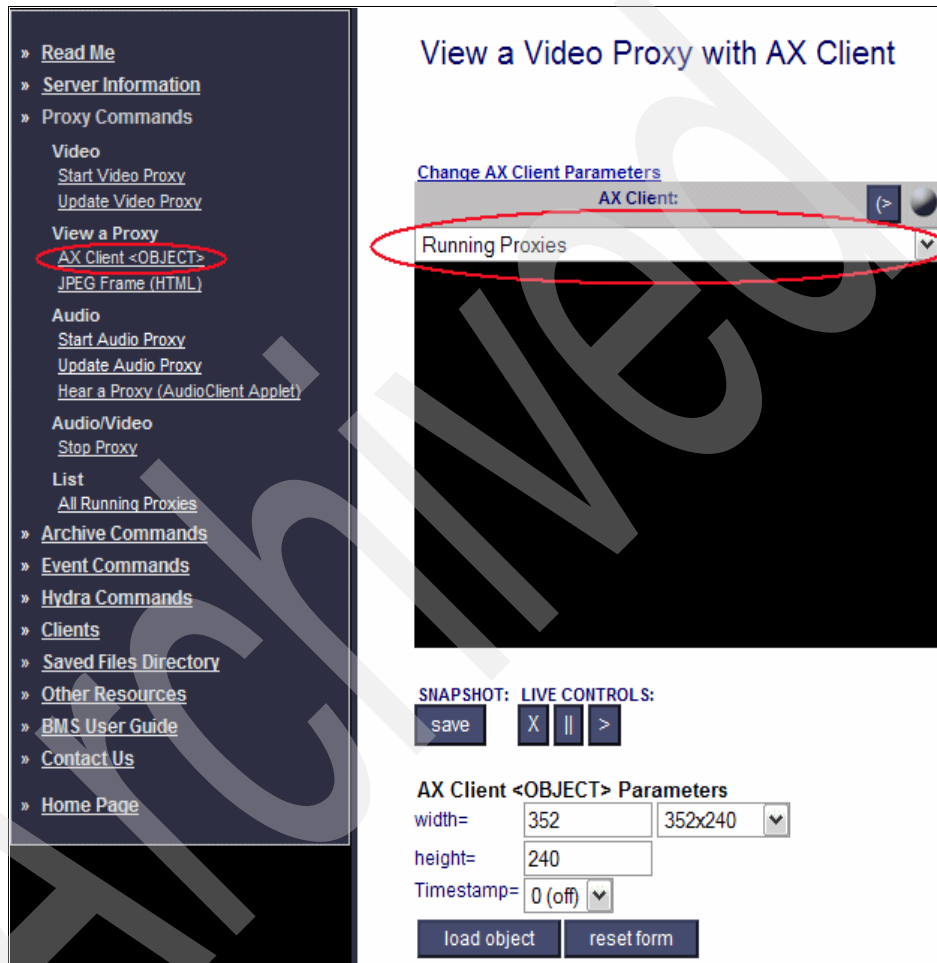

Figure 8-13 View a Video Proxy
1. On the left navigation menu, click AX Client <OBJECT>, and the View a Video Proxy with AX Client page is displayed. The proxy view window is black until you select a proxy from the Running Proxies pull-down menu, as shown in Figure 8-13.